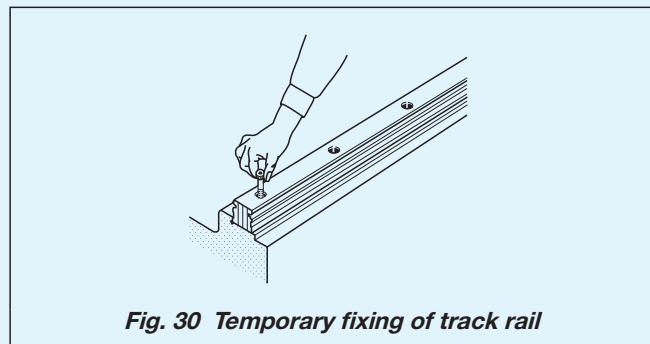

Fig. 30 Temporary fixing of track rail
- Align and temporarily fix them with reference mounting surface of each Linear Way track rail. (See Fig. 30)